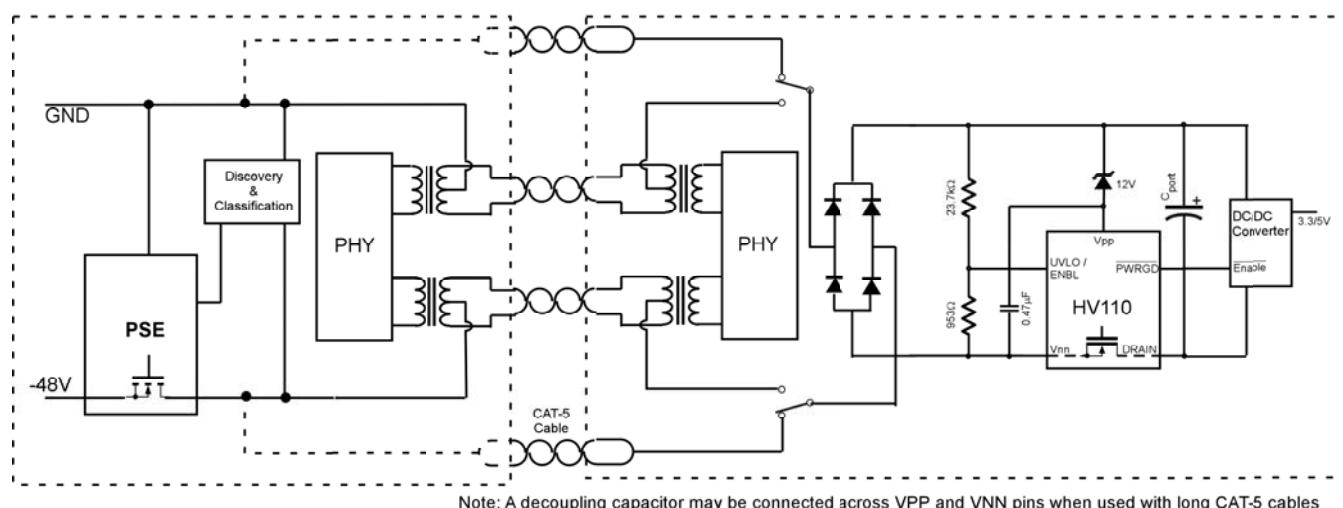

Figure 1. Typical Application Circuit
- ❑ Limits the input current to less than 10μA that will not interfere with Discovery from 2.6V to 10V (with Zener as shown in Figure 1).